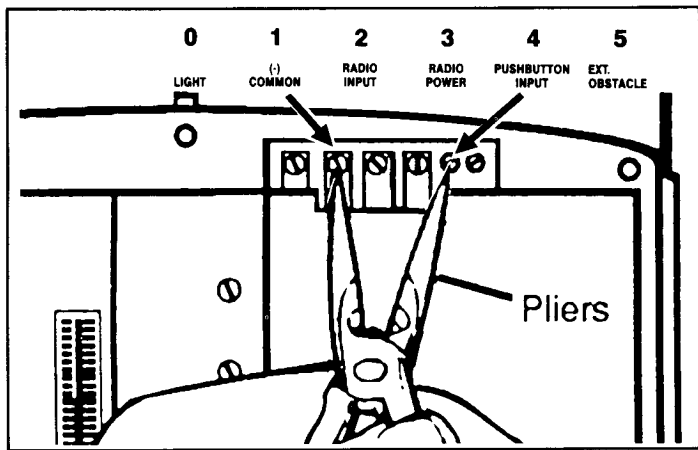

Figure 9
Step 15: Check terminal screws (Figure 9) to verify that connections are tight.
Step 35: Cut off excess wire at the power head, strip wire ends and attach one wire to terminal marked, "1" or "Common". Attach the other wire to terminal marked, "4" or "Pushbutton Input" (see Figure 9, 17, 25).